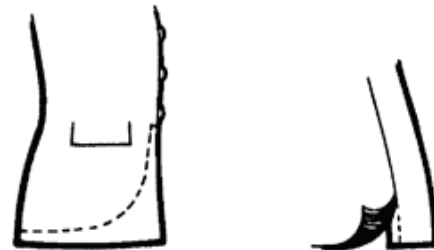

Figure 5-1-1 Kilted Dress – Jacket Modification
11. The doublet pattern service dress jacket shall be the standard service dress jacket modified locally to the approved design (see Figure 5-1-1).